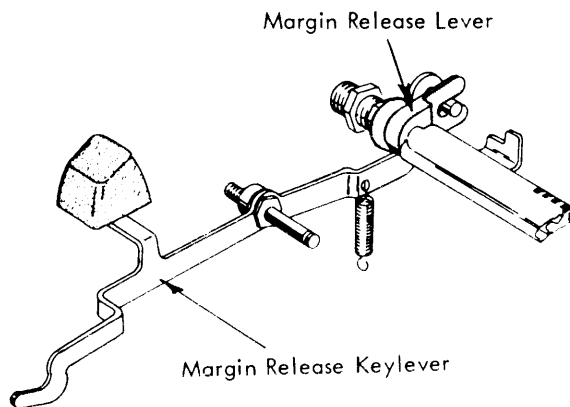

FIGURE 171. Margin Release Mechanism (721 Old Style)
- a. Old Style - With the margin release keylever at rest, loosen the Bristol screw in the margin release lever and rotate the margin rack (within the release lever) to a level position (Fig. 171). Then tighten the Bristol screw.